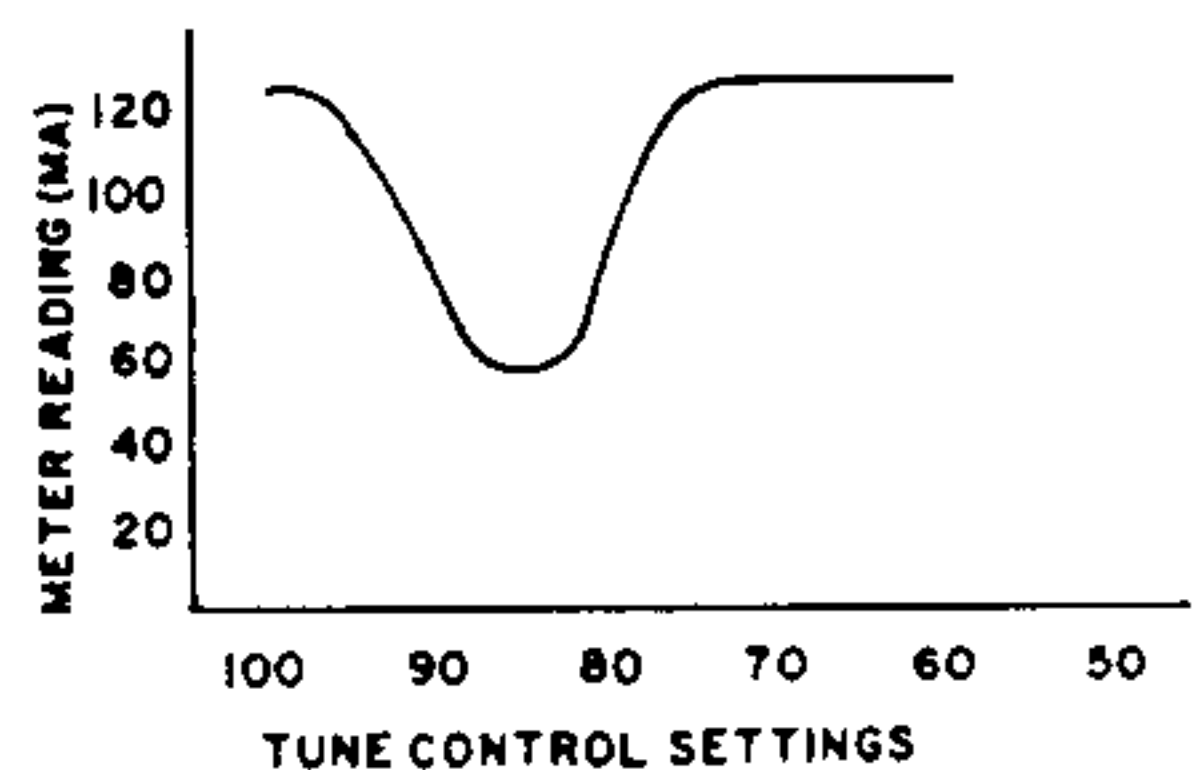

Fig. 5. Plate current readings as you move the TUNE control on 80 meters.
**80 meters.** A crystal between 3700 and 3750 kc should be in the crystal socket, and the BAND switch should be on the 80-meter position (switch in its most counterclockwise setting.) Hold the key closed and quickly move the TUNE control counterclockwise until the plate current, as shown on the meter, decreases to a minimum value. This should be at a setting of about 80 or 85 on the TUNE scale. The minimum reading on the meter should be somewhere between 50 and 90 ma, depending on the value of the load. Fig. 5 shows the plate current plotted